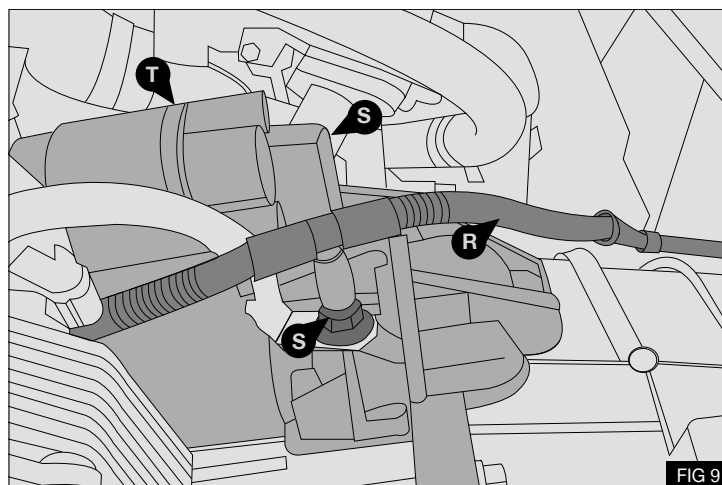

FIG 9
1. Temporarily remove the cable (R) to gain access to the starter motor bolts (S) - Fig 9
2. Temporarily remove the two bolts (S) securing the starter motor (T) - Fig 9
- Re-fit the starter motor (T) with bolts (S) - Fig 9